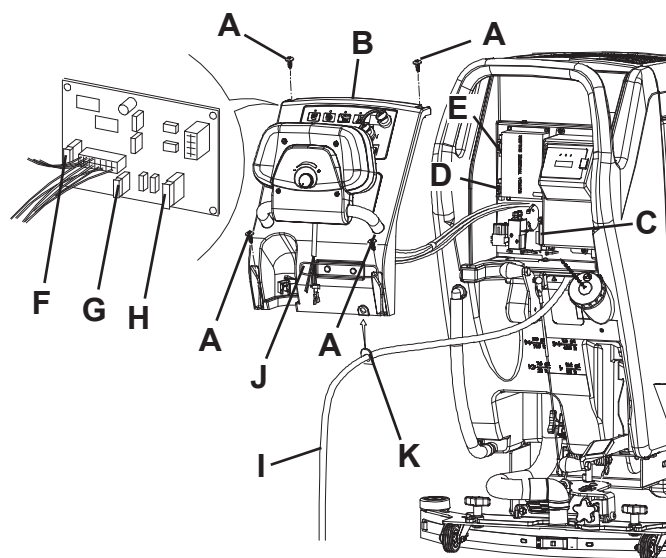

Figure 11
1. Disconnect the battery connector (12).
2. Move aside the recovery water drain hose (16).
3. Remove the battery charger cable (I, Fig. 11), if equipped, from the cable holder (J).
4. Remove the screws (A) and carefully move aside the panel (B) by disengaging the grommet (K) from its housing on the panel (B).